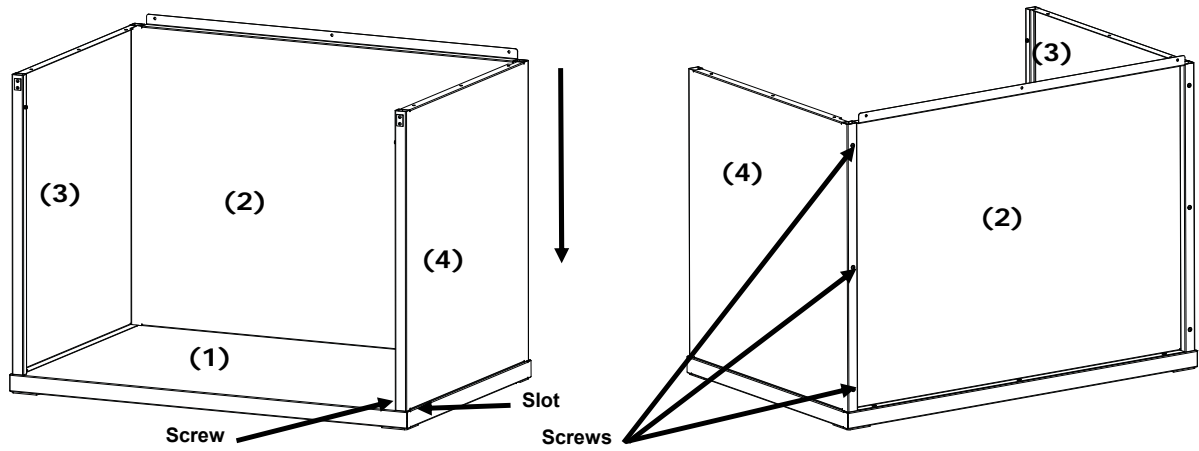

Figure 4. Right panel into rear and bottom Panel
5. Position the right panel (4) with the smooth side out over the top edge of the rear panel (2).
6. Slide the right panel (4) downward along the interlocking channel until the right panel (4) front tab inserts into the bottom panel (1). Fasten the right panel (4) to the bottom panel and rear panel by securing it with four screws as shown in figure 4.